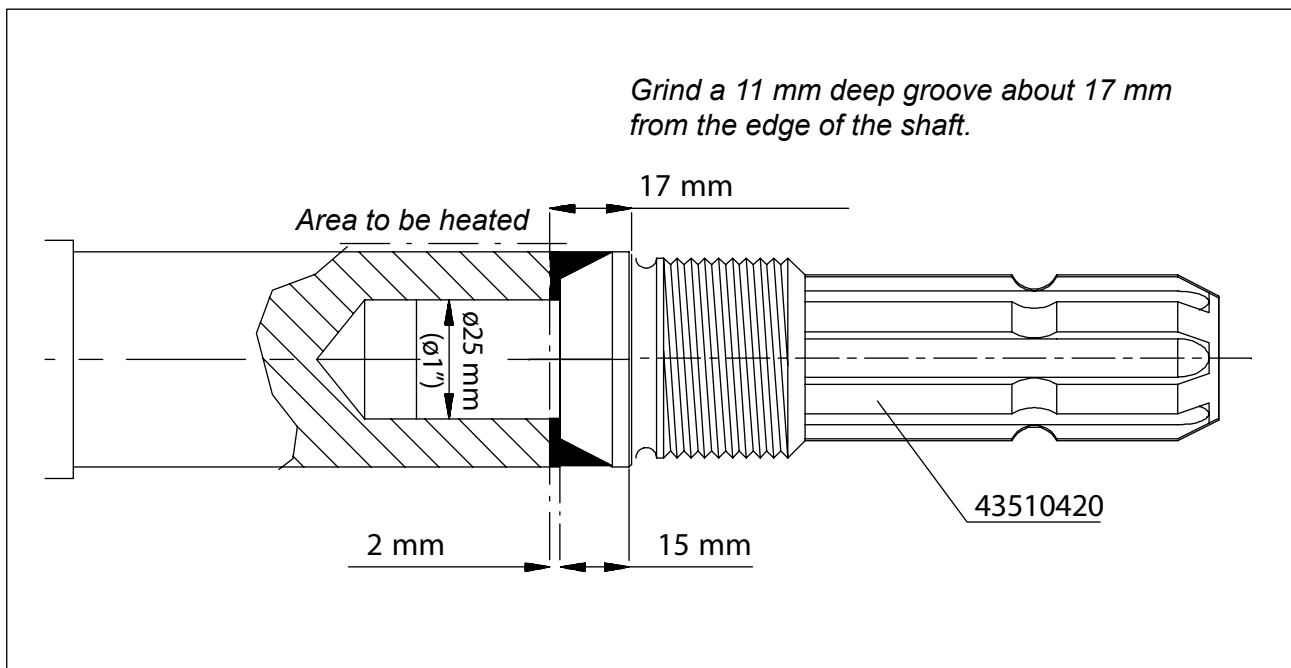

Fig. 20. Replacing the splined shaft
4. Grind an 11-mm-deep groove about 17 mm from the edge of the shaft. See Fig. 20.
7. Clean the shaft hole and install the new shaft as shown in Fig. 20.